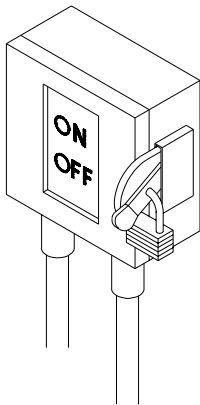

Figure 3-2. Disconnect Switch
- Disconnect switch (not by STERIS) should be installed in electric supply line near dryer (see Figure 3-2). Disconnect switch must be capable of being locked in the OFF position only.